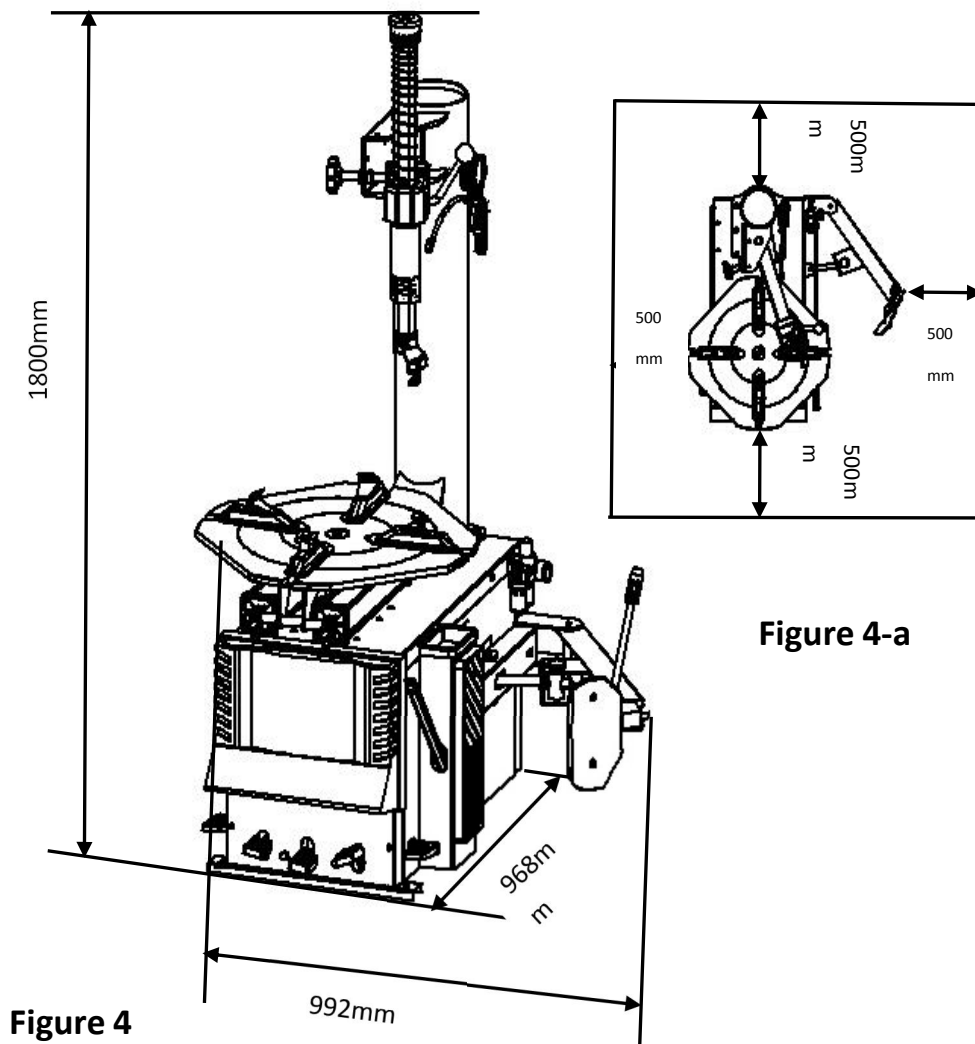

Figure 4-a
- ◇ Equipment installation location should be at least up to the standard shown in Figure 4 and 4-A, which can ensure the normal operation and the machine parts are not subject to any restrictions. The tire changer is forbidden to use in explosive gas.